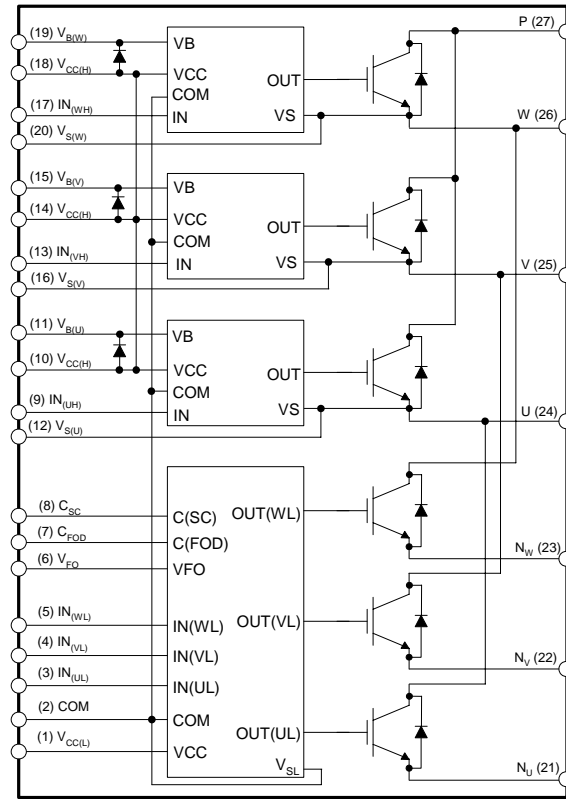

**Figure 2.**
2. For the measurement point of case temperature( $T_C$ ), please refer to Figure 2.